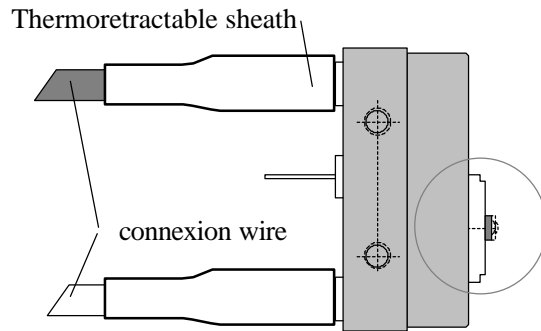

fig. 6
The micro switch must be replaced if results have allowed to discover something wrong with the works(cf. 1-5-2 et 1-5-3 ) or, after an observation with lenses, if its grain appeared very worn ( the fig. 6 shows a new 10 times magnified micro switch grain ). A certain worn degree is bearable (on its half height). This is illustrated by the raise of the difference between SAR and SAE.
**Lay out** the cover (cf. 2-2-1 ou 2-3-1 ). **Disassemble** the cale which hangs on the micro switch (cf. 3-2-2 ). **Turn over** the set, **loosen** the screws M2, **separate** and **turn over again**, the micro switch which hangs on its cables extremities appears as shown on the fig. 6. With the scalpel, **split** the thermoretractable sheath sections. **Make them slip** to see the welding. **Unsolder** and **extract** the two connection wires. **Take off** the sheathes
pane along and around the sheath until the appearance of the fig. 6 is obtained. **Reassemble** the micro switch on its cale without clamping the screws M2. **Remain attentive to the direction.** Set all parts and proceed to the complete adjustment ( 3-2-2).